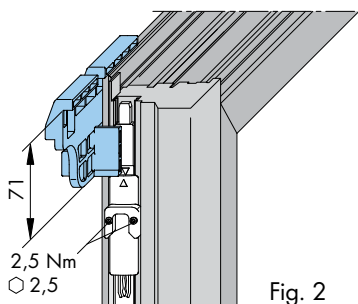

Fig. 2
- H** Position striker VSO (4/16) with striker jig LM and fix in place with grub screws M5. (Torque  $2.5 \pm 0.25$  Nm) (Fig. 2).
1. Insert BSU A0040 right/left frame part (42) into the frame groove and position it on the axxent bottom hinge as shown in the adjacent diagram (fig. 2).
2. Tighten the grub screws of the BSU A0040 right/left frame part (42) with  $2.5 \pm 0.25$  Nm.